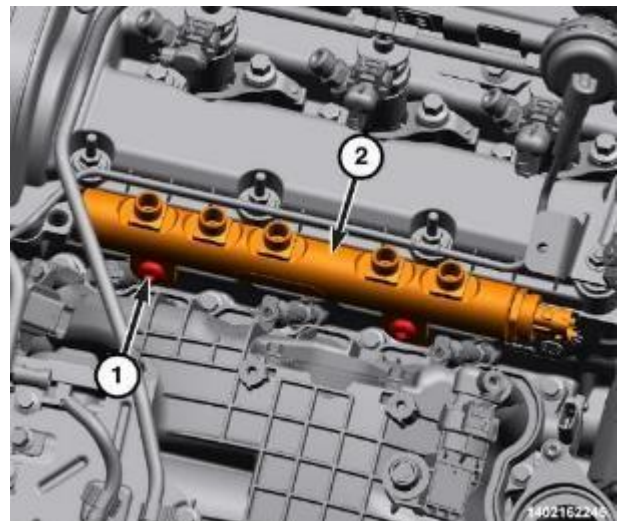

Figure 35 – Right Fuel Rail Bolts
66. Using the Remover-Installer, Fuel Rail Bolt 2025400090 remove the bolts (1) and the right fuel rail (2) (Figure 35).